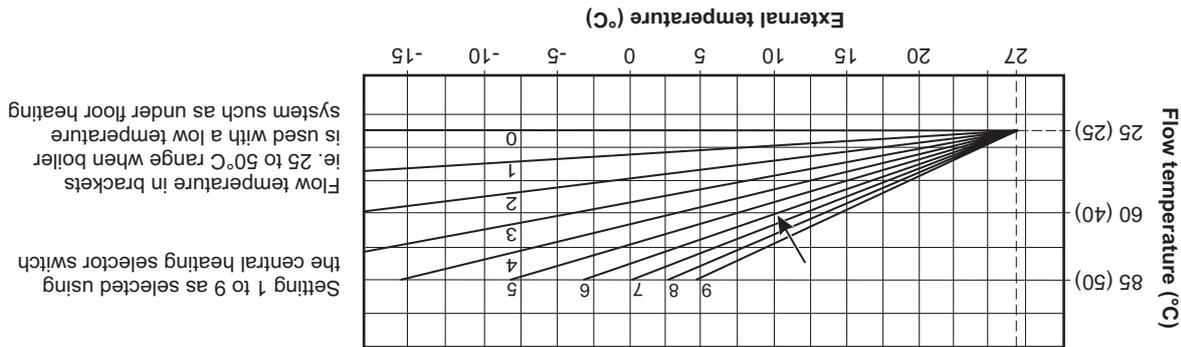
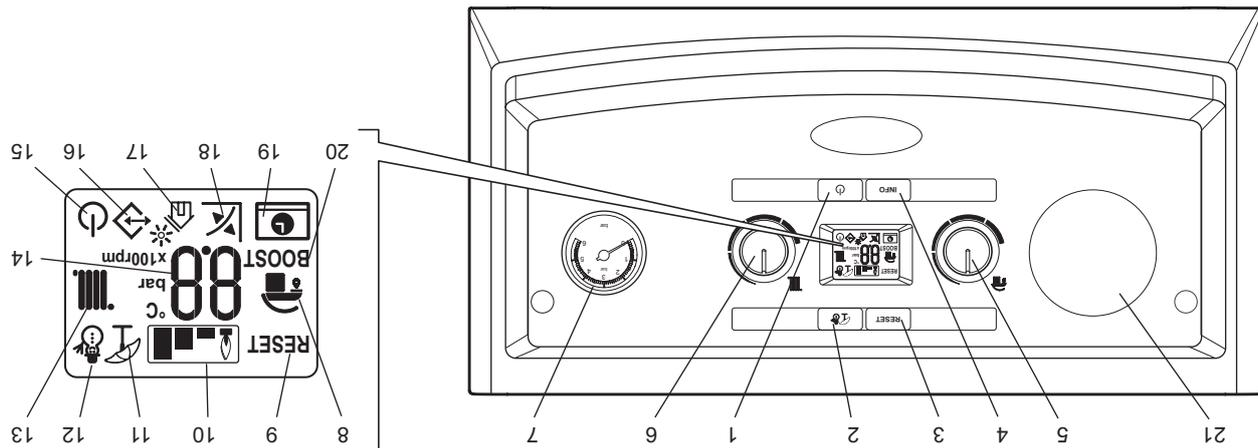

Fig. 2 - External weather compensation probe fitted
Fig. 1
If a fault occurs a fault code will be displayed in the LCD display screen (item 14 in Fig. 1), indicated with an alternating flashing E followed by the fault code. A list of fault codes are given in the table below.
Press the reset button (item 3 in Fig. 1) on the control panel to restart the boiler if the fault occurs again, make a note of the fault code and contact your installer or Alpha technical Helpline for further advice.
By pressing the info button (item 4 in Fig. 1) the information menu is accessed this will then show the information according to the table below.
The temperature of the hot water to the taps can be adjusted by turning the hot water selector switch (item 5 in Fig. 1) to the required value shown on the display in °C.
The temperature of the central heating water can be adjusted by turning the central heating selector switch (item 6 in Fig. 1). When the heating is on the temperature of the water leaving the boiler to the radiators will be displayed.
If an external weather compensation probe is fitted, indicated by the  symbol (item 18 in Fig. 1) in the display, it will automatically vary the temperature of the water in the radiators and on a mild day the radiators will not feel as hot as on a cold day, this is normal and not a fault with the boiler or heating circuit. The room temperature will still be maintained as set by the room thermostat.
When an external weather probe is fitted, the central heating selector switch (item 6 in Fig. 1) will no longer adjust the flow temperature in °C, instead the display will show a scale of 1 to 9. Each number corresponds to a line on the graph in Fig 2 i.e. line 6 will give a flow temperature of 60°C when the external temperature is 10°C.
To fill or pressurise the system open one tap fully by turning it 90° anticlockwise in line with the tap housing. The second tap should be opened a quarter of a turn and the water will start to refill the system (water should be heard filling the system). You should see the pressure gauge (item 7 in Fig. 1) rise back up into the green area on the pressure gauge between 1 bar and 1.5 bar pressure.
The boiler controls are located on the control panel. Make sure the heating system is filled and the needle on the pressure gauge (item 7 in Fig. 1) is in the green band when cold. If incorrect refer to Section 4.
Switch the boiler on at the mains supply socket switch. The boiler will automatically go through a system purging operation for 8 minutes; this is indicated by a count down on the display starting from 96. During this operation the pump will turn on and off to help remove any air that may be trapped in the heating system. If the boiler has already been commissioned by the installer then this operation can be terminated by pressing the reset button (item 3 in Fig. 1).
By pressing the On-Off button (item 1 in Fig. 1) the Standby or On mode can be selected, or press and hold the On-Off button for eight seconds to turn the boiler off.
**On** - In this mode the boiler can be switched between 'Summer' or 'Winter' settings by pressing the Summer/Winter button (item 2 in Fig. 1).